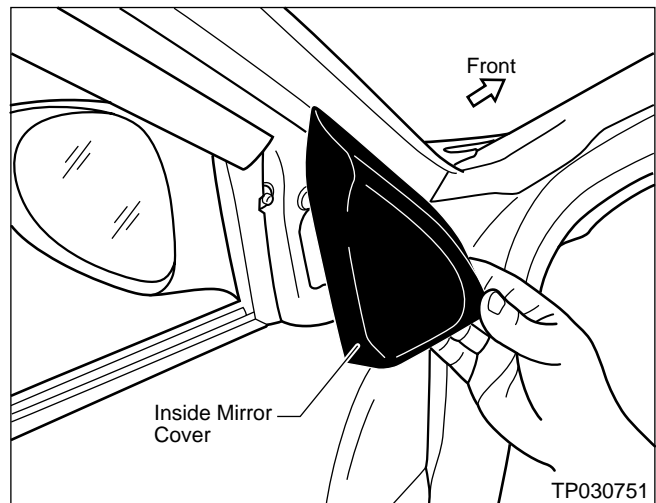

Figure 1
1. Remove the Inside Mirror Cover (see Figure 1) by pulling the Cover out to release the securing clips.